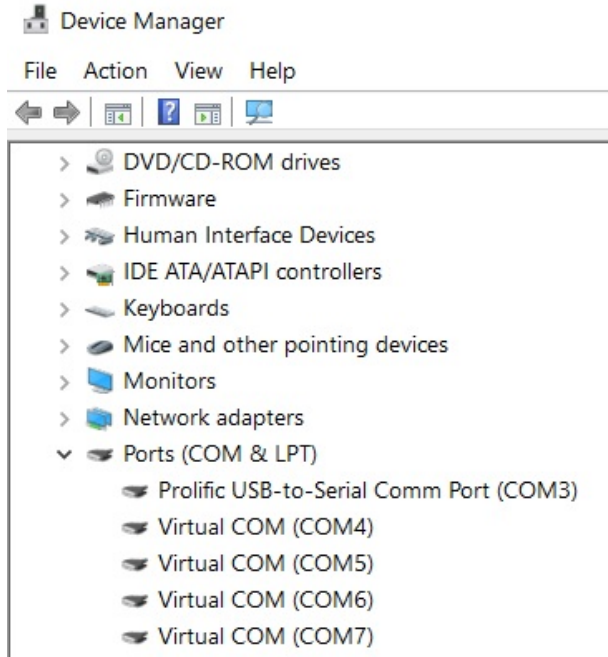

Figure 5-3-4 : Virtual COM Ports
4. From the Windows Device Manager, four COM Ports are added to the device list as shown in Figure 5-3-4.